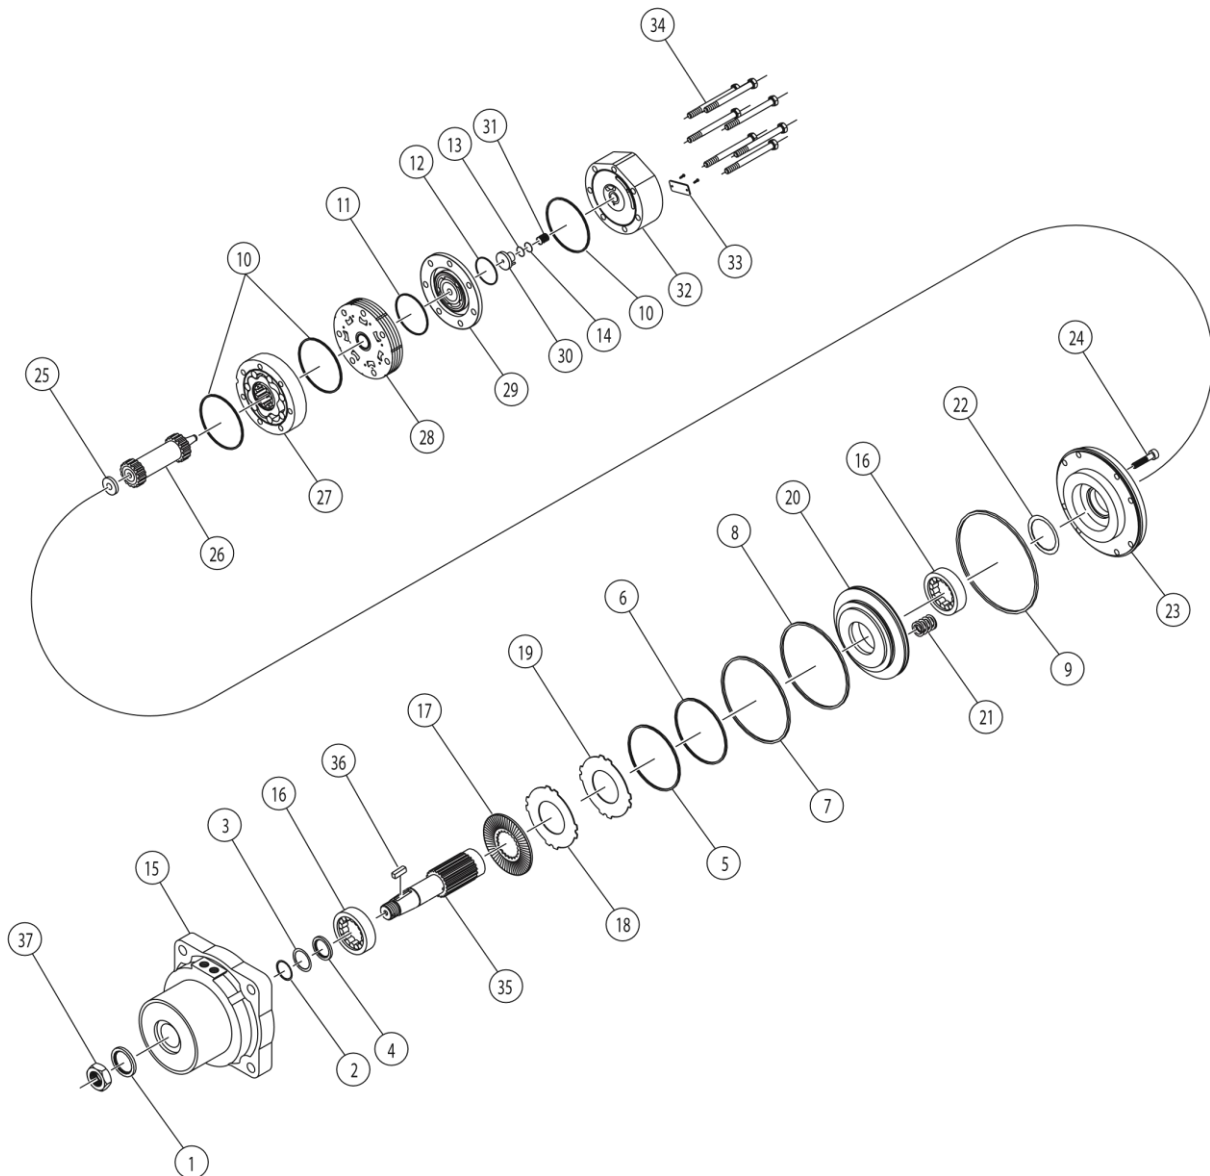

Figure 2 Exploded view
- A) To aid in reassembly of the motor, make a “I” shaped set of lines from the endcover to the housing using either paint or a marker. With shaft facing down, secure motor in vise by clamping on to housing (15).
- B) Loosen and remove seven bolts (34) holding motor assembly together. Remove endcover (32) carefully as piston (30) and spring (31) may fall out. If piston does not come out, carefully pry piston (30) out of endcover (32) and lay aside. Remove O-Ring seal (13) and backup seal (14) from endcover and discard seals. Remove spring (31) and lay aside.
- C) Lift commutator container and commutator (29) from motor and lay aside. Place commutator on a flat, clean surface with the seal (12) facing up. Place the tip of a small screwdriver on the seal (12) and gently tap until opposite side of seal lifts from groove. Remove seal (12) and discard.
- D) Remove manifold (28) and rotor set (27). Remove all seals (10 & 11) from components and discard. (Caution- Do not allow rolls to drop from rotor assembly (27) when removing rotor assembly from motor.) Remove drive link (26) from motor and lay aside.
- E) Put the housing assembly into an arbor press with the shaft facing down. Lower the press to apply downward pressure on the rear housing (23) and lock the press in place. Loosen and remove the eight capscrews (24) holding the rear housing (23) to the front housing (15). Slowly release the press to allow spring pressure to push the rear housing (23) from the front housing (15). Remove the rear housing (23) and lay aside. (NOTE: Bearing (16) and spacer shim(s) (22) may fall out of rear housing (23).) If no arbor press is available, place front housing in a vise with pilot on housing facing down. To remove the (8) SHCS, turn each screw following the bolt pattern shown in figure 2 until the springs are fully released. Then remove all screws.
- F) Remove springs (21) from front housing (15) and lay aside. Remove housing (15) from arbor press and place on a clean, flat surface with output end of shaft (35) facing up. To remove piston (20), friction disks (17) and disk stampings (18 & 19), firmly grasp output end of shaft with a rag. Raise housing assembly a few inches above work surface and firmly strike housing assembly on work surface until piston and disks drop from housing assembly. Lay piston (20) and disks (17, 18 & 19) aside.
- H) Before installing the new disk assembly, sort the disk stampings (18 & 19) by measuring the thickness. The disk stampings come in thicknesses of .095 (2,4mm) qty 2, .050 (1,3mm) qty 1, & .072 (1,8mm) qty 11. Separate the one .072 (1,8mm) stamping that is uncoated from the other ten. Begin the assembly by installing one .095 stamping. Install one friction disk engaging the splines on the disk with those on the shaft. Then alternate coated .072 (1,8mm) stampings & friction disks until all friction disks (17) are used. On top of the last friction disk, install a .095
- J) Install springs (21) on top of piston. Install O-Ring Seal (9) in rear surface of housing (15). If rear shaft bearing (16) and spacer shim(s) (22) came out of rear housing (23), reinstall at this time by placing spacer shim(s) (22) into rear housing (23). Install rear shaft bearing (16) making sure that snap ring that retains bearing rolls faces out. While holding bearing into rear housing, place rear housing (23) onto front housing (15) lining up bolt holes. While holding motor assembly together, remove motor assembly from vise and place in arbor press. Press down on rear housing (23) until it contacts front housing (15) and lock press. Install eight capscrews (24) and torque to 45 ft. lbs. If no arbor press is available, place front housing in a vise with pilot on housing facing down. Screw in the (8) SHCS until they engage the threads in the housing (15). Then turn each screw 1/2 turn at a time following the bolt pattern shown in figure 2 to evenly tightened down the rear housing (23) until it contacts the housing (15). Then torque the screws to 45 ft. lbs.
- K) Install drive link spacer (25) in shaft. Install drive link (26) into end of shaft with tapered end facing up. Place body seals (10) in grooves in both sides of rotor (27). Place rotor (27) onto rear housing (23) with side of rotor with chamfer in splines facing rear housing (23). Place manifold (28) over rotor (27) with seal groove side up. Install manifold seal (11).
- L) Install the commutator seal (12) into the commutator (29) with the metal side facing out. Use finger pressure to press the seal down flush with the surface of the commutator. Place the commutator container onto the manifold (28) and then place the commutator onto the protruding end of the drive link (26) making sure that the seal side faces up.
- M) Install the remaining body seal (10) in the groove in the face of the endcover (32). Install piston spring (31) into endcover (32), then the white backup seal (14) followed by the O-Ring seal (13). Lining up the alignment pin with the hole in the endcover, press piston (30) into the endcover (32). While holding the piston (30) in the endcover, lower the endcover assembly onto the motor. Check to make sure that the endcover ports are in their original position.
- N) Install the seven assembly bolts (34) and pre-torque to 10 ft. lbs. Final torque all bolts to 50 ft. lbs. using a crisscross pattern.